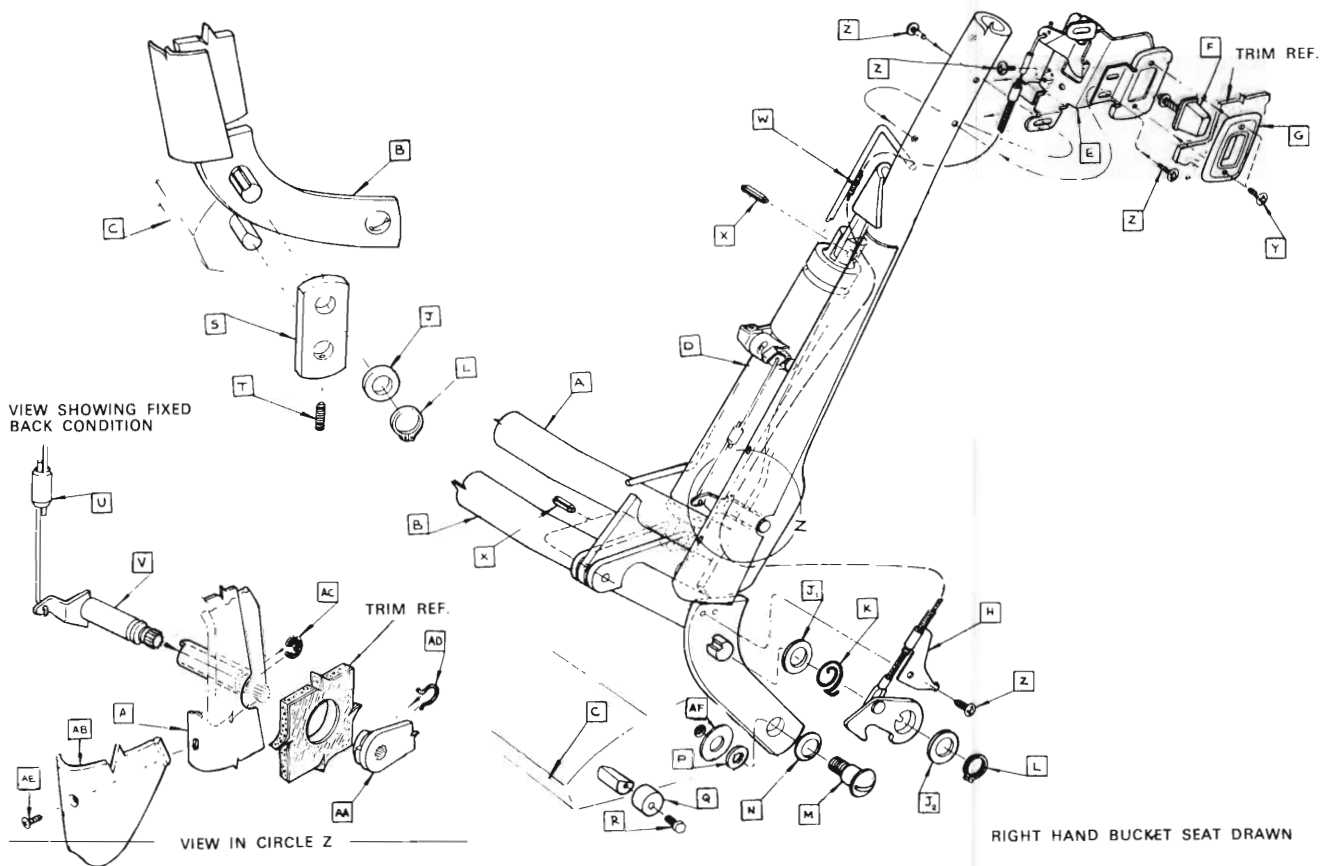

Fig. 50 - Recliner mechanism and fixed back recliner bucket seats
**Recliner Mechanism Assembly (Fig. 50)**
(9) Loosen the locknut, tighten the screw one half turn, lock the locknut and test the recliner.
(10) If the recliner does not lock, repeat step 9 until the correct adjustment has been obtained.
(11) If the seat fails to lock after step (9) and (10), the recliner mechanism should be replaced.
(12) Re-install the cover front seat back side (AB) and secure with screws (AE).
**Fixed Back Recliner (Fig. 50)**